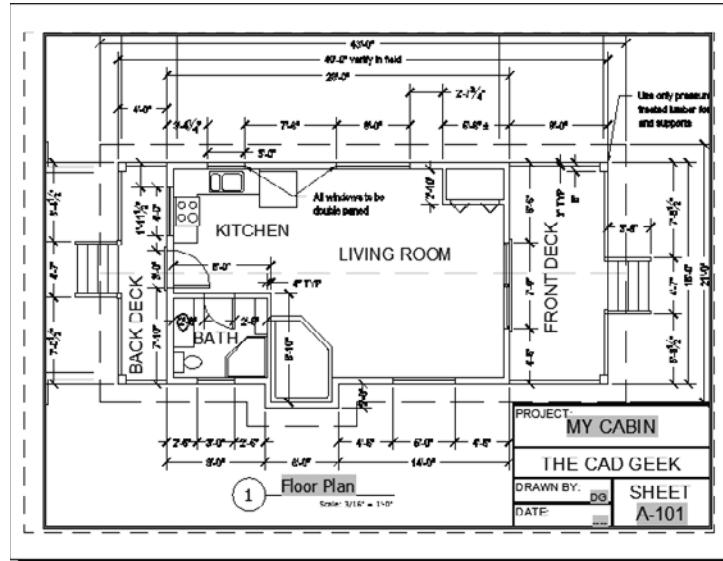

FIGURE 14.66 The Cabin Floor Plan layout after selectively freezing layers in the viewport
3. Finally, to configure AutoCAD to use the current Annotation Scale in model space to render dashed lines, enter **MSLTSCALE** ↵ 1 ↵ at the command line. When finished, your drawing should look similar to Figure 14.66.